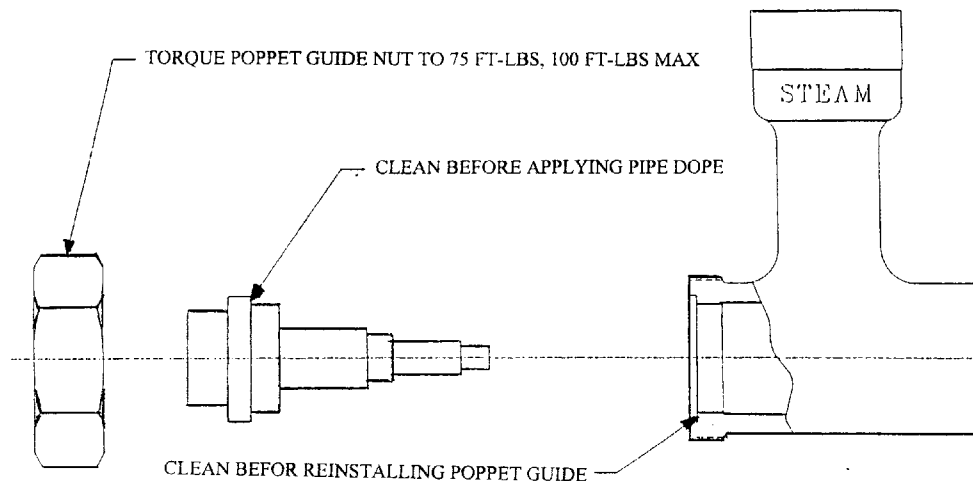

Figure 5: M-5000TG/M-5700TG poppet guide seat assembly.
6. The new poppet can now be installed using the same tool, guide assembly, and guide nut being careful not to overtighten (see TORQUE values in Fig. 5).